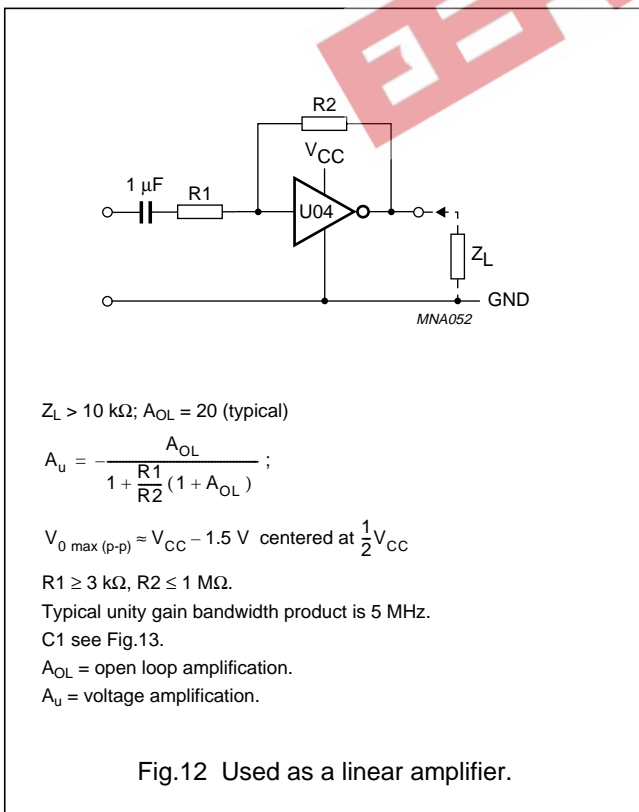

Fig.12 Used as a linear amplifier.
- Linear amplifier (see Fig.12)